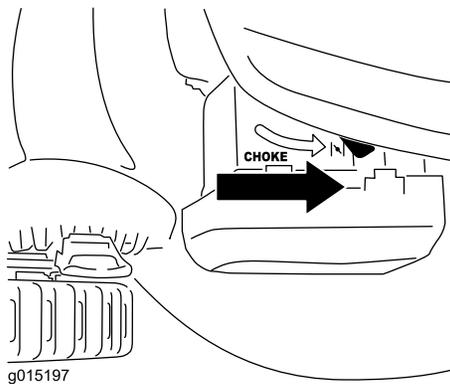

Figure 20
- When the engine is cold, move the choke lever to the Choke position (Figure 20). Do not use the choke when the engine is warm.